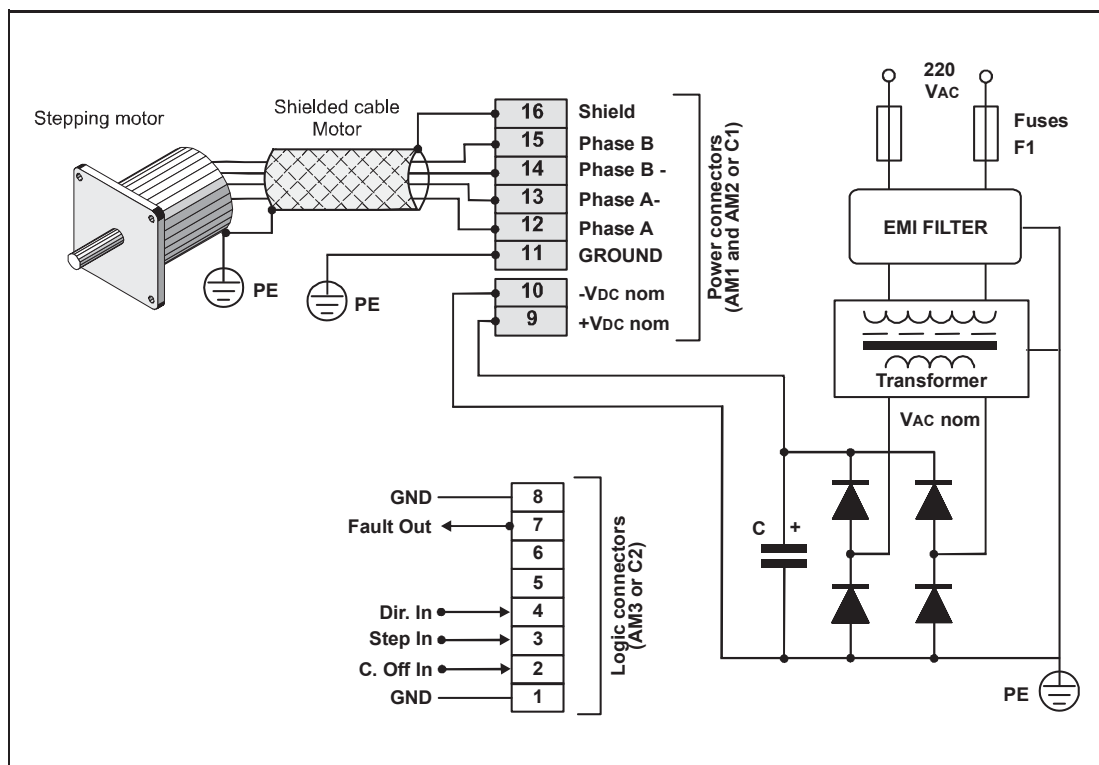
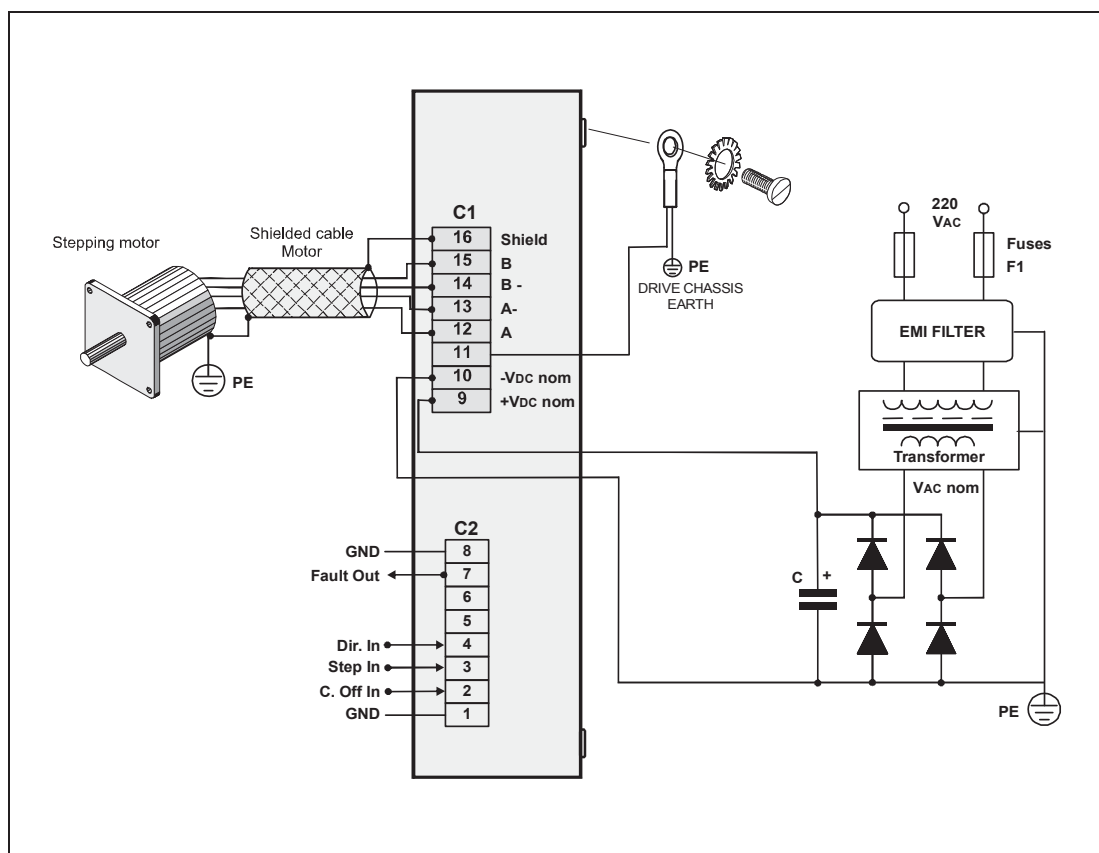

Fig. 2a - Drive external connection scheme for A-CSD 02, A-CSD 02.V, A-CSD 04, A-CSD 04.V
Fig. 2b - Drive external connection scheme for A-CSD 92 and A-CSD 94
- Connection made to Protective Earth terminal (PE), shown in Fig.2a e Fig. 2b, must be short and have the lowest possible inductance.
It is possible to use a switching power supply instead of a traditional power supply indicated in Fig. 2a and Fig. 2b, provided that you have a capacitor of at least 1000  $\mu$ F on the output line of power supply. This capacitor should be located at a distance not greater than 1 - 2 meter from Vdc input of the drive. The purposes of the capacitor are: